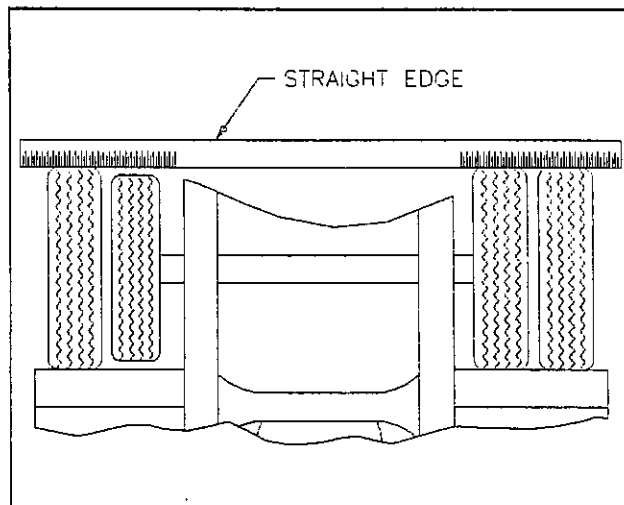

Fig. 4-10 Straight Edge Method
b. Straight Edge or String Method: (This method can not be used if tire and wheel assemblies are not mounted on the axle.) Jack semitrailer up until the wheels are off of the ground. Hold a straight edge against the tires of both ends of an axle. A gap at one tire indicates a smaller tire. A maximum of $1/8$ " gap is allowed (See Figure 4-10).